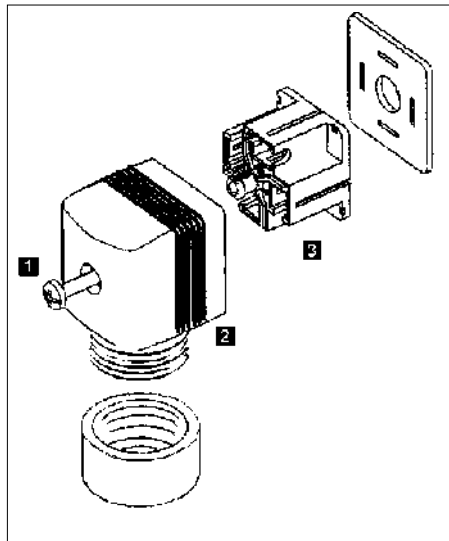

Fig. 3.2 Plug assembly DIN43650
Standard DIN 43 650 plug connector with PG9-cable glands, cross section max. 1.5 mm2, IP65 rating (cf. fig. 3.2).
1. To open the connector remove the screw **1** (cf. fig. 3.2).